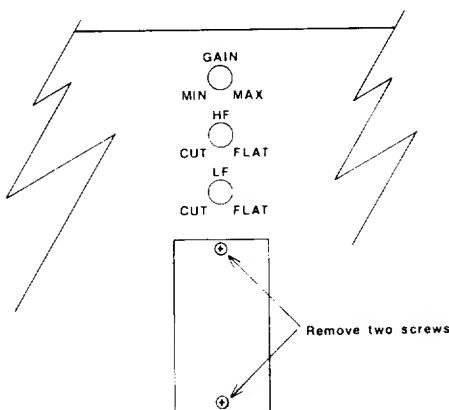

Figure 5. Removal of Blank Cover Panel
3. Remove the blank cover panel as shown in Figure 5. Install the selected connector assembly with the screws provided. Plug the pigtail connector (from the main connector assembly) onto its appropriate male mating connector on the module's printed circuit board.